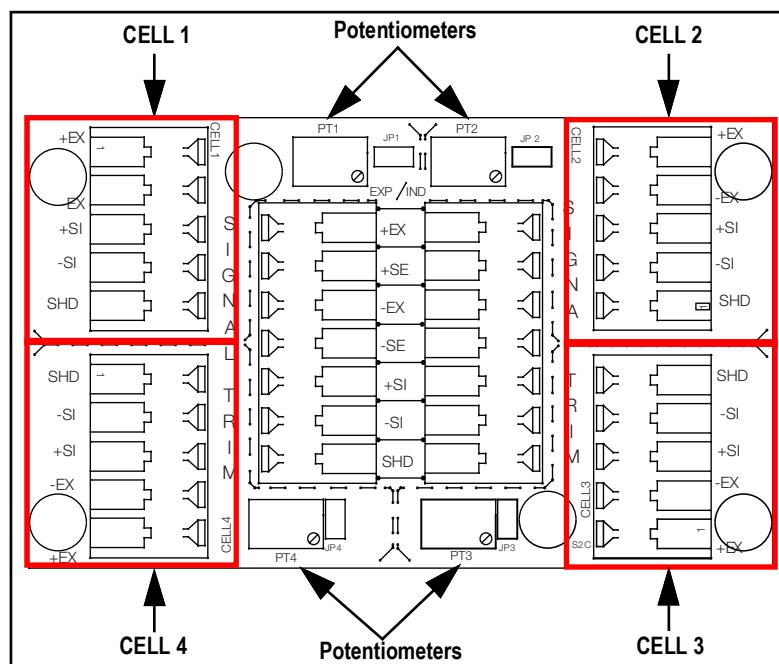

Figure 3-1. Junction Box Terminal Blocks with Load Cell Connectors and Potentiometers Identified
5. Identify the load cell terminals corresponding to each corner (for example, CELL 1, CELL 2, CELL 3 and CELL 4) (Figure 3-1.)
8. Turn each of the four potentiometers clockwise to increase the reading until there is a clicking sound. This ensures the maximum signal from each load cell (Figure 3-1).